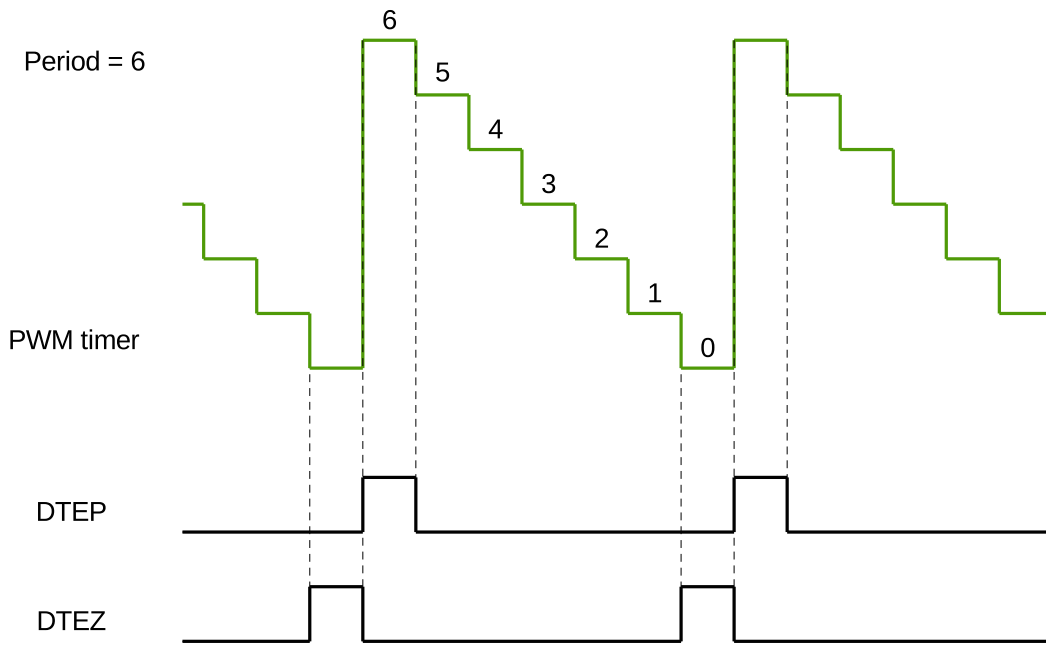

Figure 86: DTEP and DTEZ Generation in Count-Down Mode
2. DTEP and DTEZ do not happen simultaneously. When the PWM timer is in count-down mode, DTEZ will always happen one cycle earlier than DTEP, as demonstrated in Figure 86, so their action on PWM signals will not interrupt each other. When the PWM timer is in count-up-down mode, DTEZ will not occur.